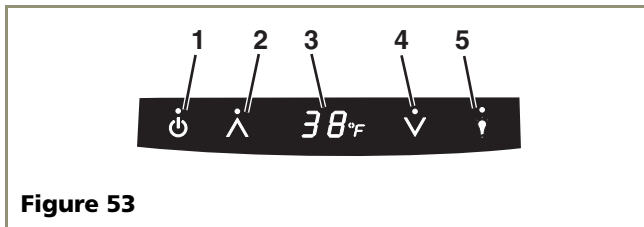

Figure 53
- Open the door and press the POWER icon (see **Figure 53, 1**) (**Page 23**) on the display panel until OFF is displayed.
- Open the door and press the POWER icon (see **Figure 53, 1**) (**Page 23**) on the display until OFF is displayed.
Once installation and leveling is complete, the unit is ready for initial start-up and operation. The display panel is located inside the unit, on the top of the refrigerator side (see **Figure 53, 1**).
3. Press the POWER icon (see **Figure 53, 1**) and hold for approximately five seconds until the °F symbol flashes and release. The water fill valve will energize and fill the water reservoir. The water fill valve shuts off after approximately 180 seconds (3 minutes). The compressor begins to operate.
The CLRCO2175 display (see **Figure 53, 3**) will show the set-point temperature (38°F) when the unit is on and will show OFF when the unit is off. The CLR2160 display (see **Figure 53, 3**) will show ICE when the unit is on and will show OFF when the unit is off.